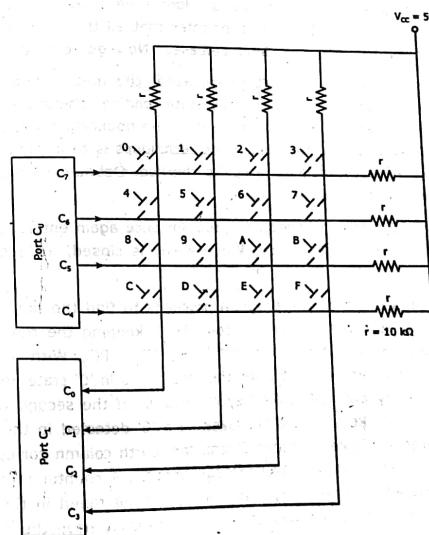

Fig. 5.1.4 Hex Keyboard Interface
Fig. 5.1.4 shows how a hexadecimal keypad can be connected to a couple of microcomputer ports so that the three interfacing tasks can be done as part of a program. Let us use the programmable peripheral interface chip 8255 for this purpose. The 8255 is initialized so that port  $C_L$  acts as input port and port  $C_U$  acts as output port. The rows of the matrix are connected to four output lines of port  $C_U$ , namely  $C_4$ ,  $C_5$ ,  $C_6$  and  $C_7$ . The column lines of the matrix are connected to four lines of port  $C_L$  which are  $C_0$ ,  $C_1$ ,  $C_2$  and  $C_3$ .
- (1) Give '0's to all rows through the output port  $C_U$  and check the columns through port  $C_L$ . If any of the columns reads '0', it means that a key already pressed is not yet released. In that case the program enters a loop repeatedly checking the columns. Once all the columns read '1' state, it indicates that all the keys are in open state and any key pressed earlier has been released. Now go to next step.
- (2) When a mechanical key is pressed or released, the metal contacts of the key momentarily bounce before giving a steady state reading. Therefore, it is necessary to eliminate the bounce before reading the key. The bouncing time is approximately 20 ms (milliseconds). One of the debouncing techniques is to introduce a time delay of about 20 ms. After the delay, the key is checked. Debounce delay is introduced every time a key is pressed or released.
- (3) Now with all the keys in open state, the program once again enters a loop, but this time waiting for a key to be closed. When a key is closed, a debounce delay is introduced.
- (4) When a key is pressed, then the program proceeds to find the number of the key pressed. First a '0' is given to the first row ( $PC_7$ ), keeping the remaining rows in '1' state. The columns are checked for a '0' with  $PC_0 - PC_3$ . With reference to the diagram Fig. 5.1.4 we can see that when the first row is in '0' state and first column reads '0' then the key pressed is the key marked '0'. If the second reads '0', then the key pressed is the key marked '1'. Likewise a '0' detected in the third column means the key pressed is key number '2' and the fourth column corresponds to key number '3'. The columns are checked through port  $C_L$ . A counter is initialized with zero and incremented by one every time the key is not found in the column that is being checked. This way, the counter will automatically have the number of the key that is to be detected.